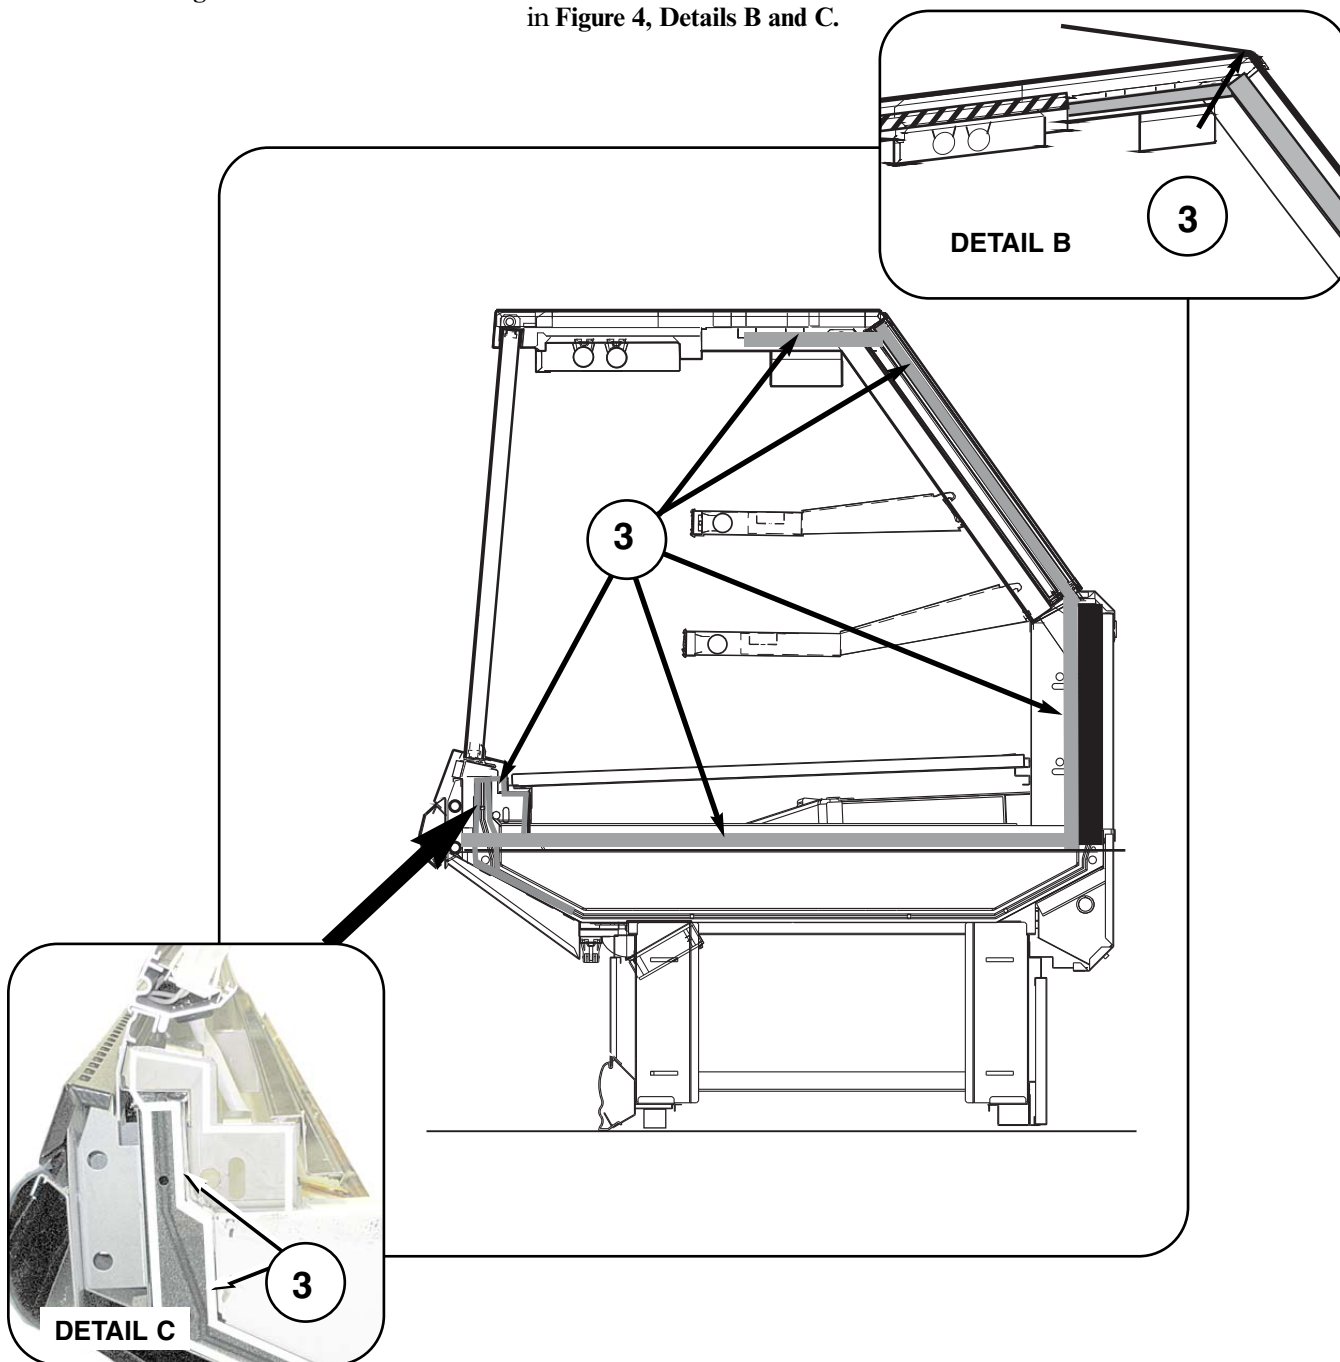

**Figure 3.** Apply 1 1/2 in. Gasket to the Merchandisers
**2** Apply 1 1/2 in. (321 mm) **Gasket (Item – 2)** to rear foam panel of both cases as shown. Check to be sure there are no gaps between gasket and merchandiser. **NOTE: THIS IS THE ONLY GASKET THAT IS APPLIED TO BOTH CASES. THE FOLLOWING STEPS MUST BE DONE TO ONE CASE ONLY. SEE FIGURE 3, DETAIL A.**